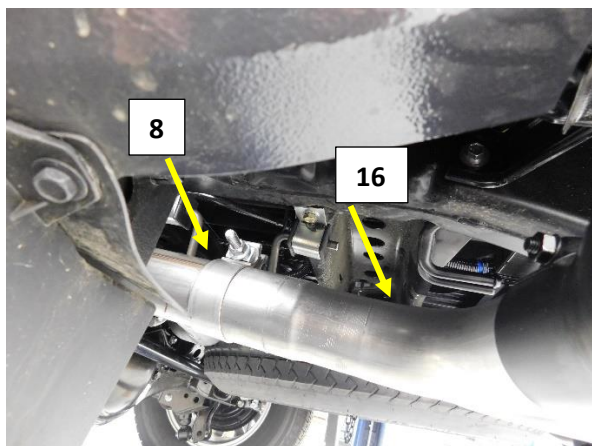
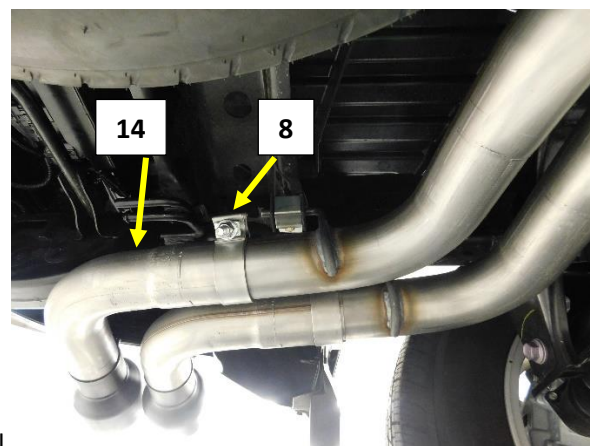

Figure.18
Figure.19
20. Install a 2.5" band clamp on to the Side Exit Pipe "A" (16) with the clamp at the top of the pipe and bolt facing out.
21. Install Side Exit Pipe "A" pipe on to the left tail pipe and tighten the clamp to allow for adjustment. Fig.18
22. Install a 2.5" band clamp on to the Side Exit Pipe "B" (14) with the clamp at the top of the pipe and bolt facing in.
23. Install Side Exit Pipe "B" pipe on to the right tail pipe and tighten the clamp to allow for adjustment. Fig.19